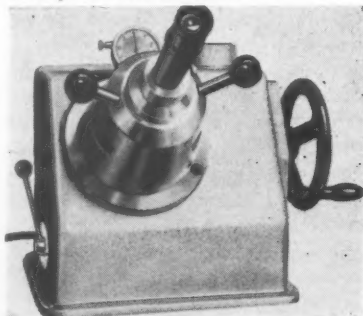

Fig. 8
**Lacquer and Paint Testing Machine.** An instrument with hand-hydraulic drive used for the cupping test. The determinations are observed by eye or with an illuminated microscope (Fig. 8).